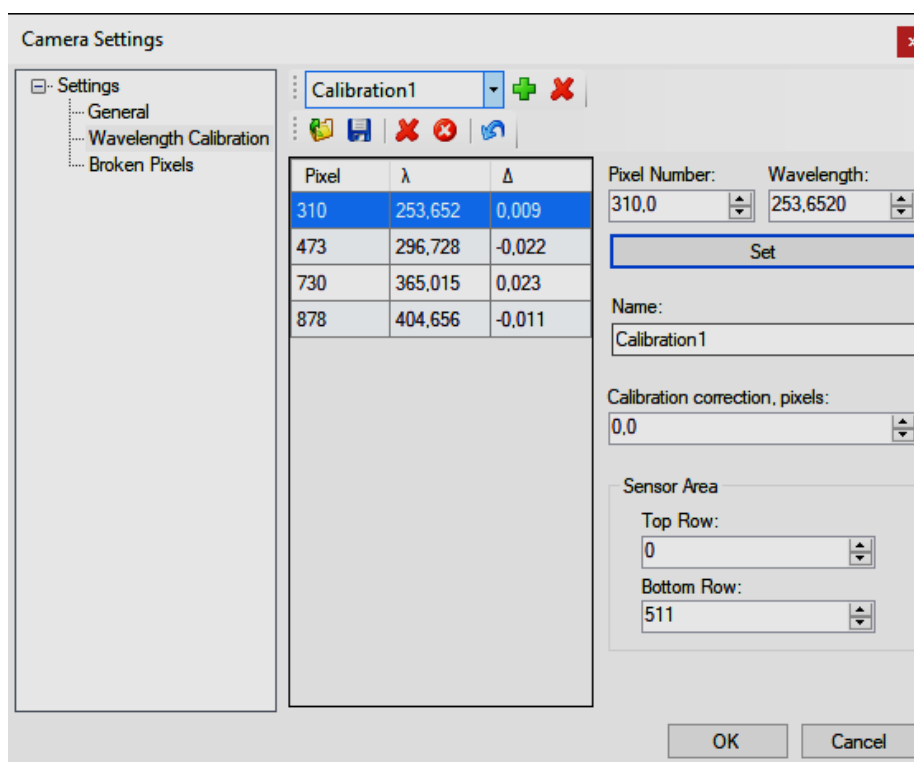

Fig. 35 Wavelength calibration window
- Click  within «**Camera Settings**» to open «**Wavelength Correction**» window (Fig.35). Create a new calibration by clicking the  (*Add new calibration*) button. Type in the boxes the **pixel number** and the corresponding **wavelength** in nanometers. Click «**Set**» to **add a new ranging mark** to calibration.